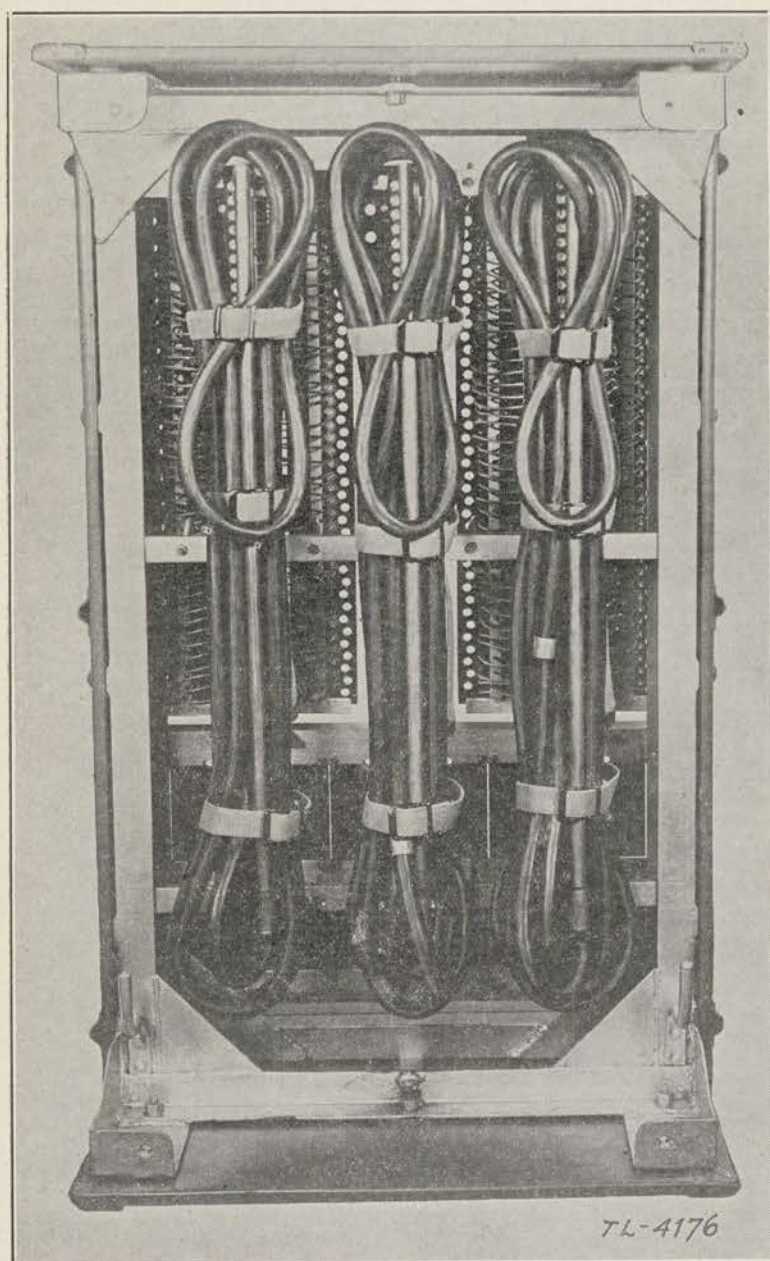

FIGURE 34.—Cabinet BE-79, cables secured for transportation.
**43. Packing for army transportation.**—Remove the spade-terminal strips from the switchboard BD-89-A and fasten them to the associated binding post terminals in cabinet BE-79. Coil up the cables and strap them in place as shown in figure 34. Fasten the cabinet